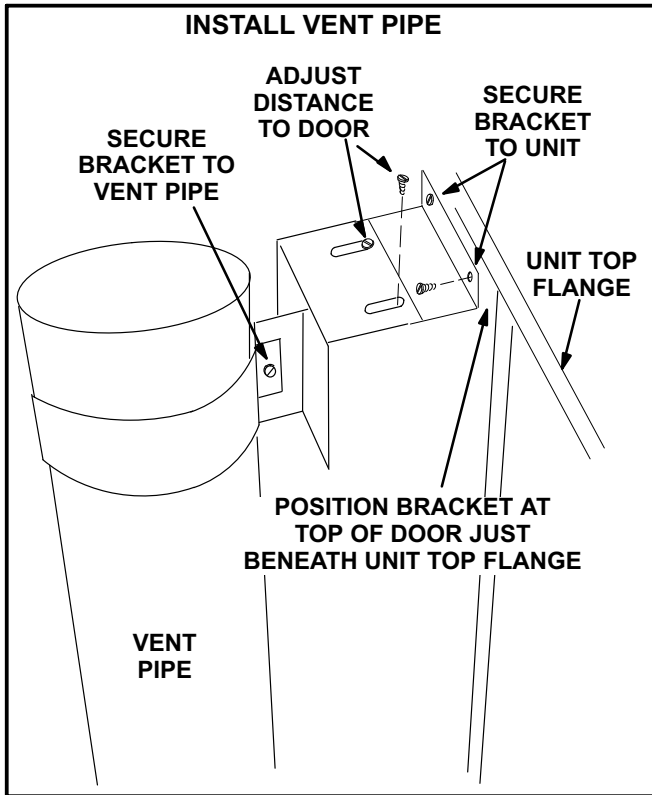

FIGURE 8
- 10- Slide bracket assembly over the top of installed vent pipe. Secure as shown in figure 8. Make sure bracket is as high on the door as possible but beneath unit top flange.